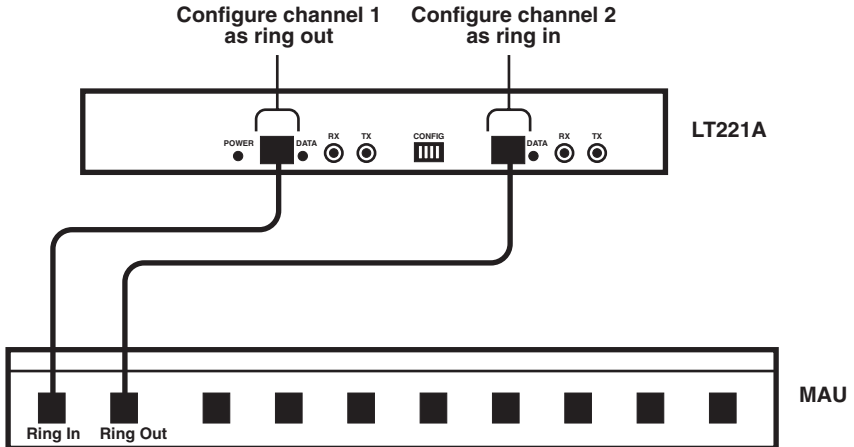

Figure 4-2. Configuration Example.
1. Configure each Converter's RJ-45 connectors for their intended use with the Config Switch, located on a converter's front panel. A Fiber Optic Converter II has two RJ-45 connectors; a Fiber Optic Converter I has one. Figure 4-2 shows a sample application and tells how the RJ-45 connectors must be configured.
Refer to Figure 4-3 for switch setting information. Configure the RJ-45 connector as Ring In if it connects to Ring Out of a MAU, and vice versa. See Figure 4-2 for an example. (More information on the Config switch is given in Chapter 3.)